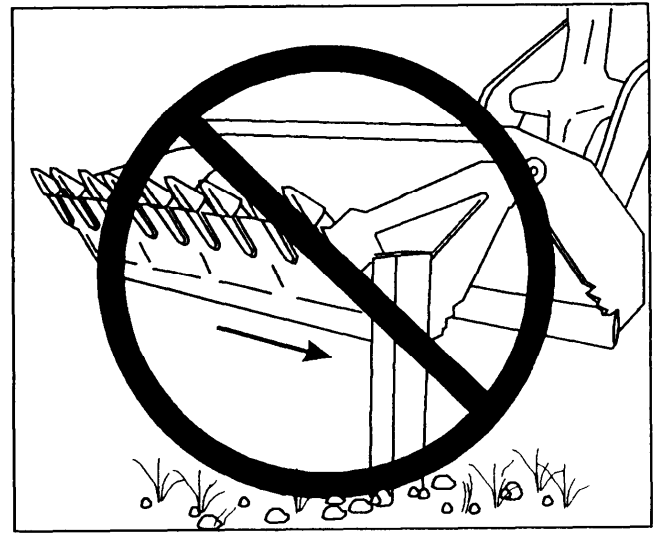

Figure 9-30.—Breaking off an object by side loading the clamshell.
**Do NOT** attempt to break off buried or anchored objects by side loading the clamshell, especially when opened, because this may bend the sides of the clamshell (fig. 9-30).